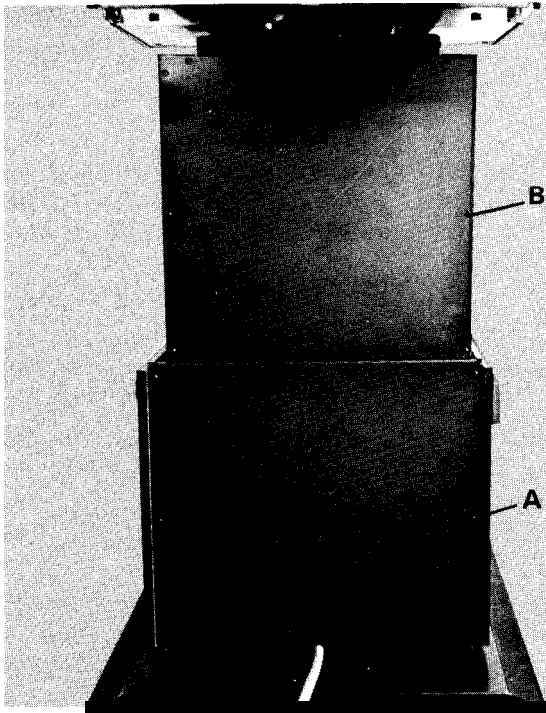

Fig. 13
- 1) Remove front outer shroud by removing (6) screws, Item A, Fig. 13.
- 2) Replace front outer shroud by placing shroud in position as shown in Fig. 13, aligning holes and installing (6) #6 x 3/8" screws, Item A, Fig. 13.
- 1) Remove front inner shroud by removing (8) screws, Item B, Fig. 13.
- 2) Replace front inner shroud by placing shroud in position as shown in Fig. 13, aligning holes, and installing (8) #6 x 3/8" screws, Item B, Fig. 13.